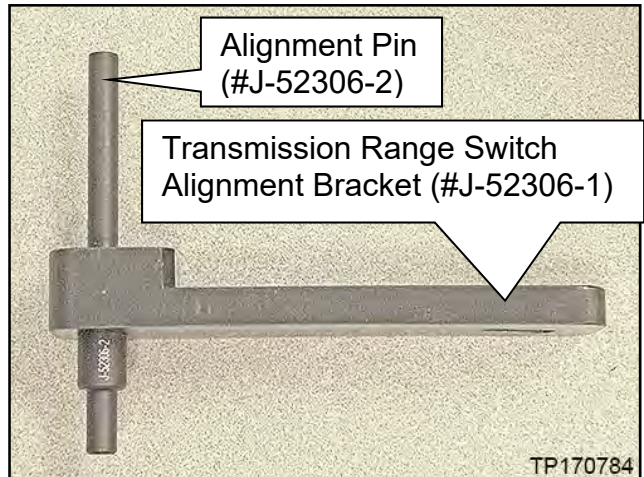

Figure 213
- a. Install the alignment pin (#J-52306-2) into the Transmission Range Switch Alignment Bracket (#J-52306-1) as shown in Figure 213.